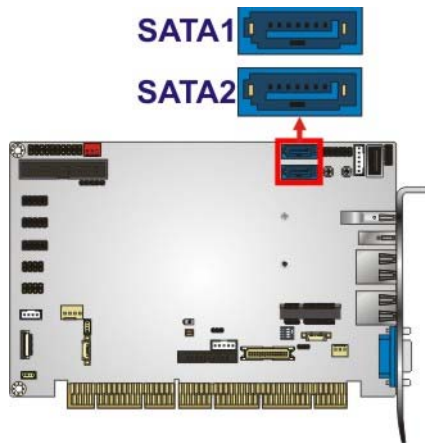

Figure 3-22: SATA 3Gb/s Drive Connector Locations
- CN Location:** See **Figure 3-22**